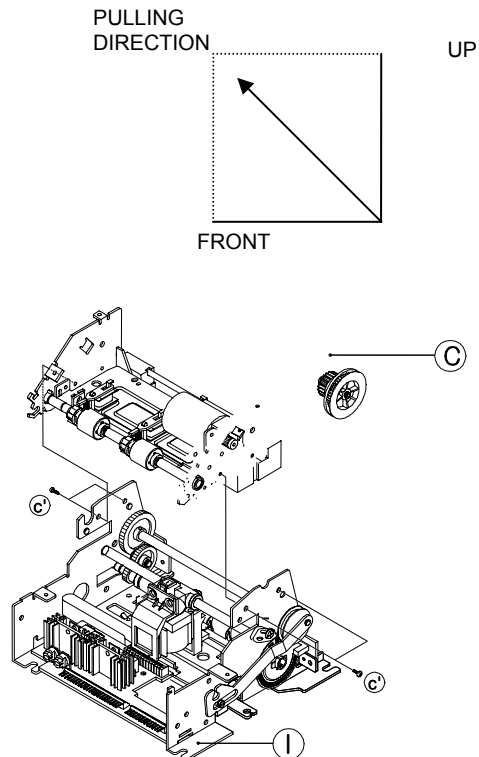

Figure 4-2. Separating Upper Frame from the Lower Frame.
3. Remove the four screws, (c), and separate the Upper Frame Assembly, C, from the Lower Frame assembly, I. Pull the Upper Frame assembly in the direction shown in figure 4-2.